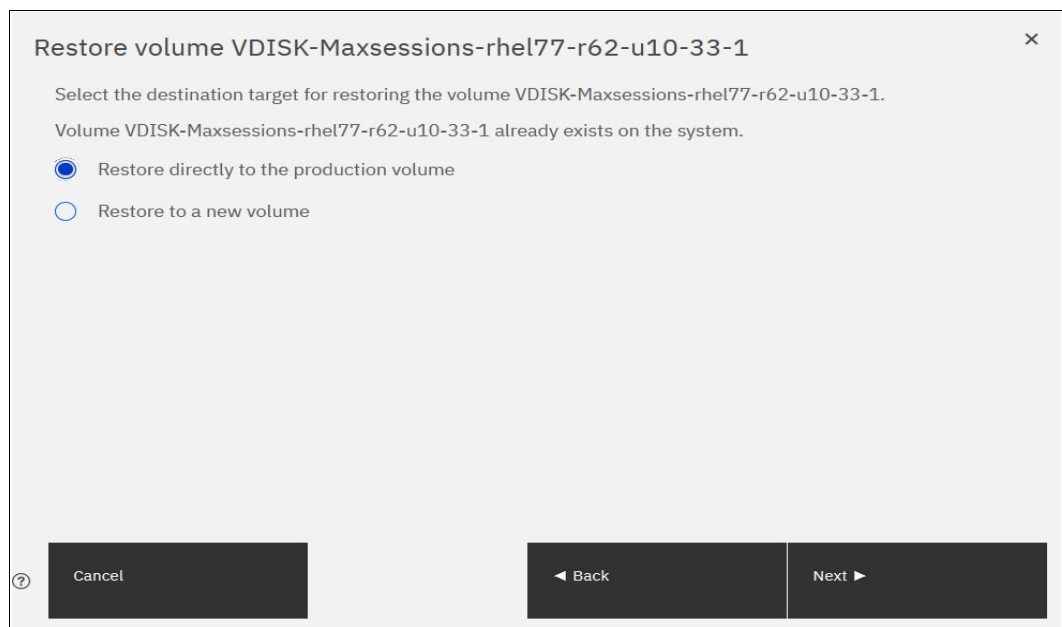

Figure 10-79 Restoring a snapshot on an existing volume or on a new volume
4. The IBM Spectrum Virtualize GUI provides two options to restore the snapshot from cloud. You can restore the snapshot from cloud directly to the selected volume, or create a volume to restore the data on, as shown in Figure 10-79. Make a selection and click **Next**.